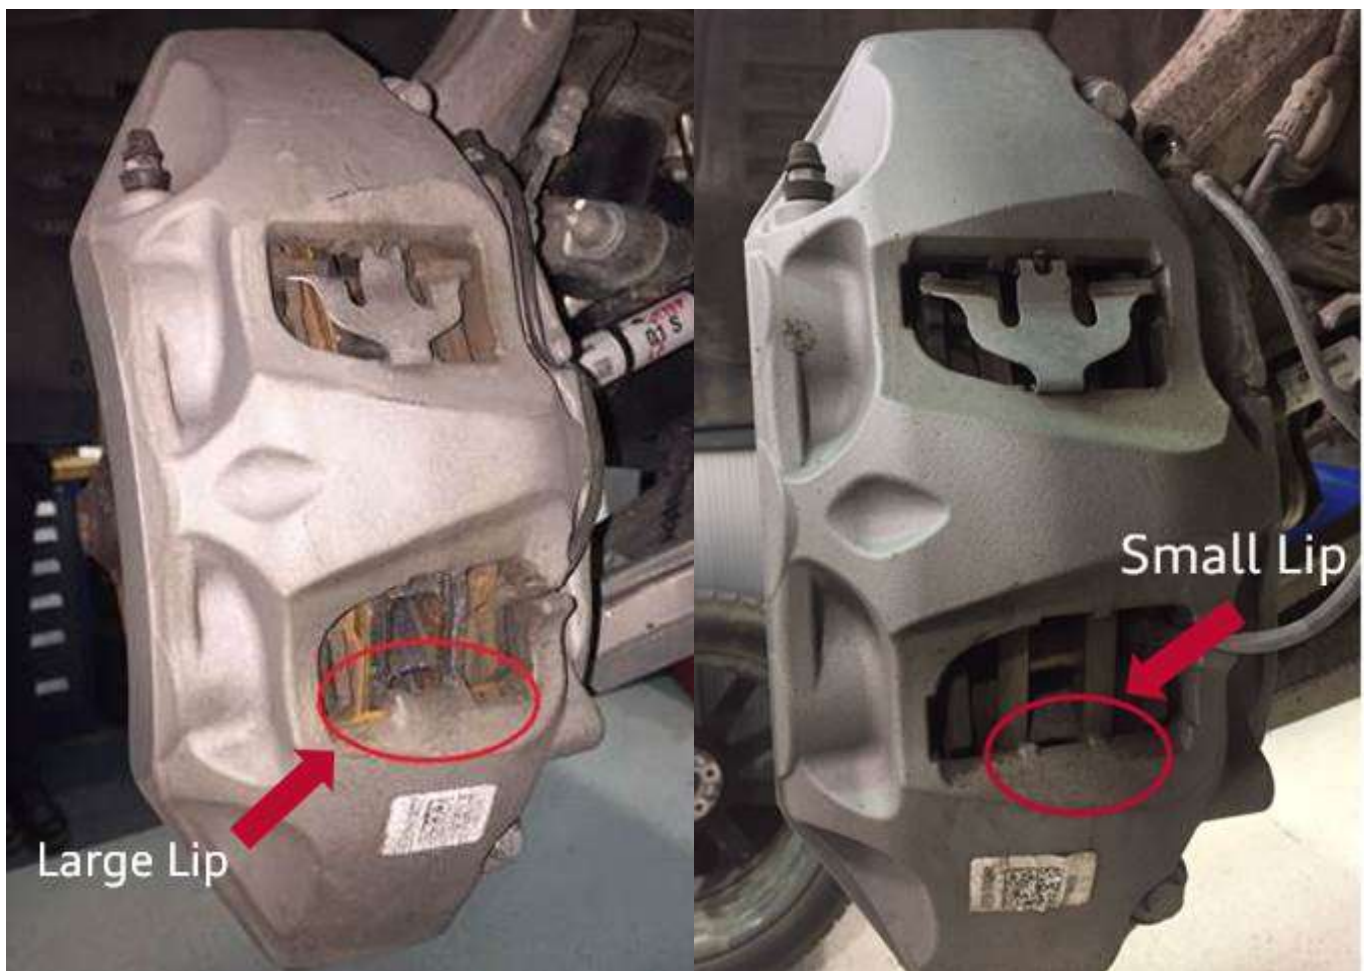

Figure 1. Caliper casting lip configurations.
1. Identify the caliper casting lip of the installed caliper in the vehicle. There are two possibilities for the lip; large and small. (Figure 1).